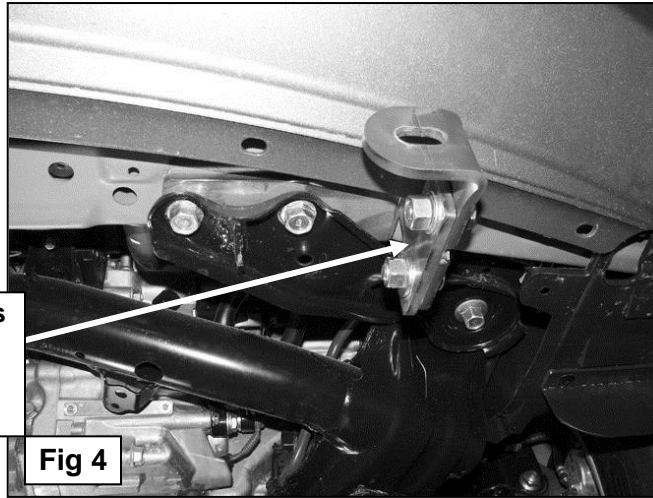

Fig 4
- Select the driver side Mounting Bracket, **(Figure 3A & 3B)**. Bolt the Mounting Bracket to the outside of the Frame Mounting Bracket with the included (2) 12mm x 35mm Hex Bolts, (2) 12mm Lock Washers, (4) 12mm Flat Washers and (2) 12mm Hex Nuts, **(Figure 4)**. Snug but do not tighten hardware at this time. Repeat Steps 3 & 4 for the passenger side bracket installation.